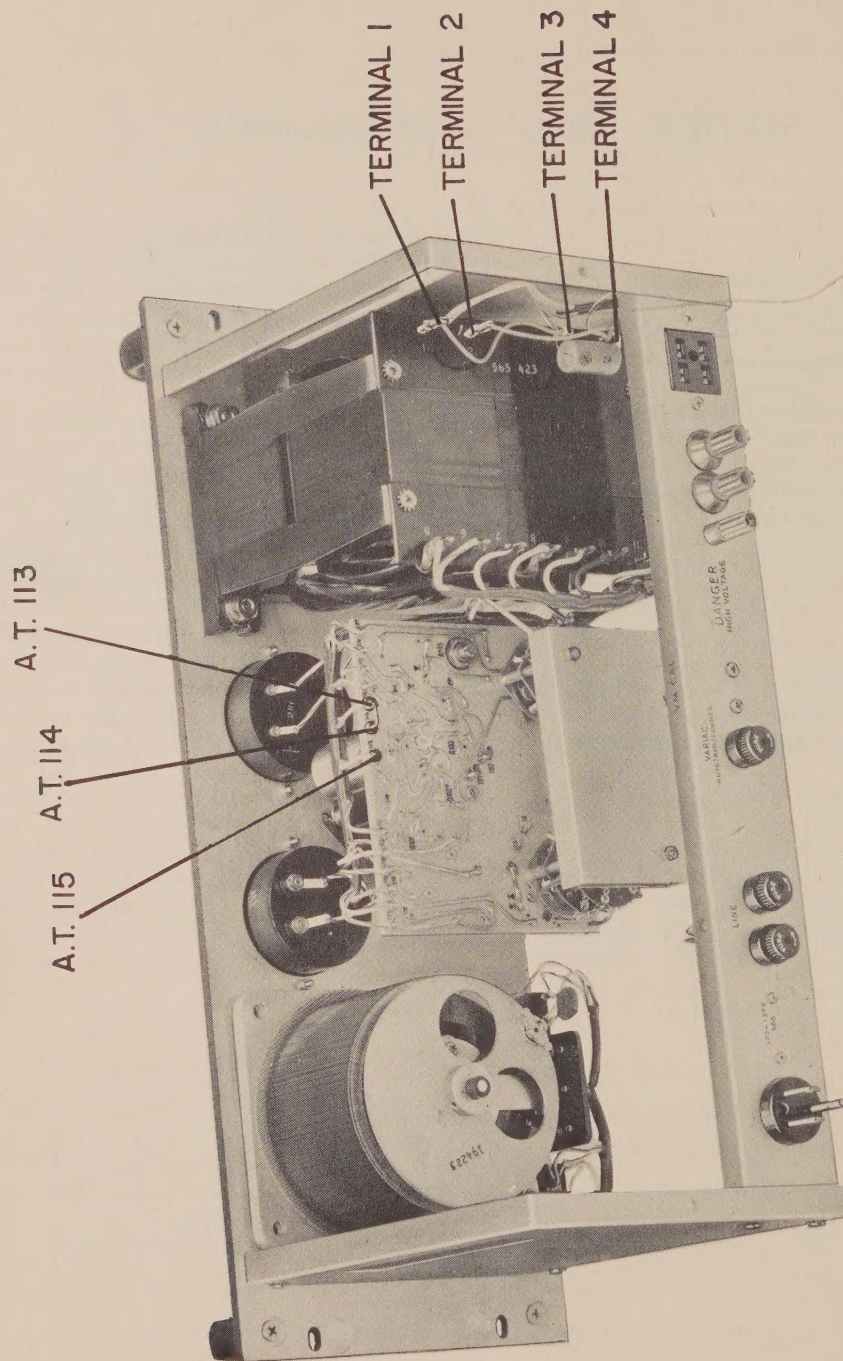

Figure 3-1. Rear interior view of the Type 1266-A Adjustable AC Power Source.
2.1.1 120-VOLT OPERATION. Terminals 1 and 2 should be connected to terminals 3 and 4, respectively, on power transformer T102 (see Figure 3-1), and there should be a connection between tie points A.T. 113 and A.T. 114, located on the printed circuit board behind current transformer T103. The rating of each of the three fuses should be 3.2 amperes. The voltage label on the rear panel, above the power input socket, should read "105-125 v, 50-60 c." With the POWER switch turned off, connect the Type CAP-22 Power Cord from the power mains to the power input socket.
2.1.2 240-VOLT OPERATION. Remove the connections between terminals 1 and 3 and terminals 2 and 4 on power transformer T102, (see Figure 3-1); connect terminals 2 and 3. Connect tie points A.T. 114 and A.T. 115 on the printed circuit board behind current transformer T103. The rating of each of the pair of fuses (side by side, on the rear panel) should be 1.6 amperes. The rating of the single fuse should be 3.2 amperes. The voltage label on the rear panel, above the power input socket, should read "210-250 v, 50-60 c." With the POWER switch turned off, connect the Type CAP-22 Power Cord from the power mains to the power input socket.